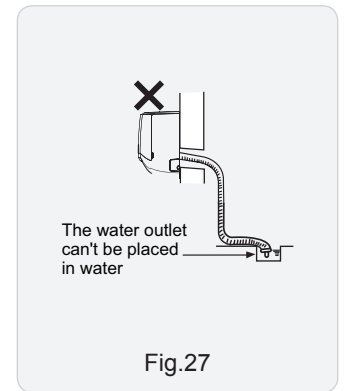

Fig.27
(3) The water outlet cant be placed in water in order to drain smoothly.(As show in Fig.27)